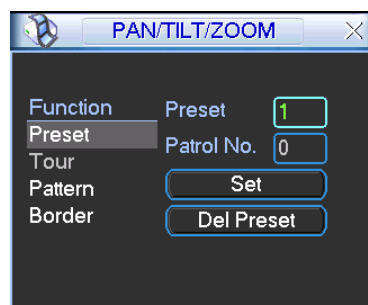
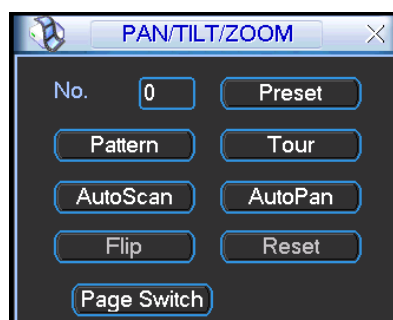

Figure 4-46
Figure 4-47
In Figure 4-43, please click the “set” button. The interface is shown as below. See Figure 4-46.
In Figure 4-43, click page switch button, the interface is shown as in Figure 4-47.
- The following setups are usually operated in the Figure 4-43, Figure 4-46 and Figure 4-47.
In Figure 4-46, click preset button and input preset number. The interface is shown as in Figure 4-48.
In Figure 4-47, please input preset number in the No. blank, and click preset button.
In Figure 4-46, input patrol (tour) number in the No. blank and click patrol button
In Figure 4-46, click pattern button and then click “begin” button. The interface is shown as in Figure 4-50. Then you can go to Figure 4-43 X to modify zoom, focus, and iris.
In Figure 4-47, click “Auto Scan” button, the system begins auto scan. Correspondingly, the auto scan button becomes Stop button. Click stop button to terminate scan operation.
In Figure 4-47, click page switch button, you can see an interface is shown as below. See Figure 4-52. Here you can set auxiliary function. The aux value has relation ship with the Aux button of the decoder.